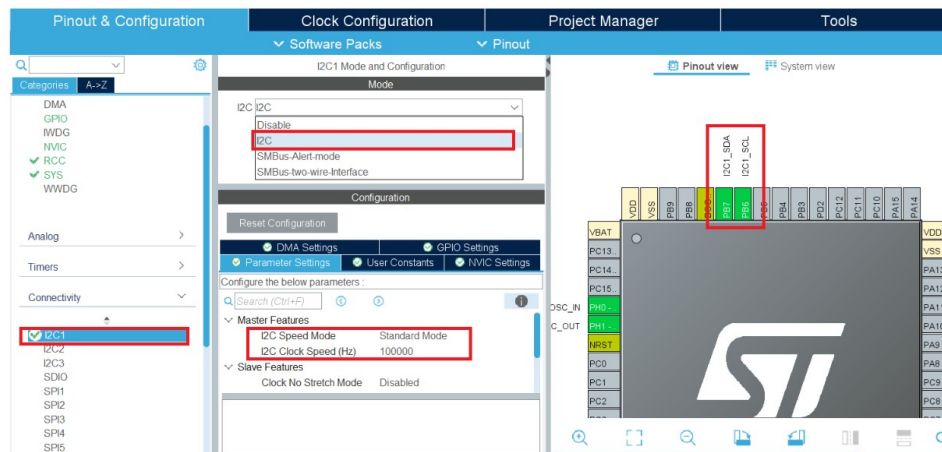

Figure 2.8: I2C Configurations
- Configure the I2C in the standard mode, with the clock speed set to 100KHz as shown in Figure 2.8